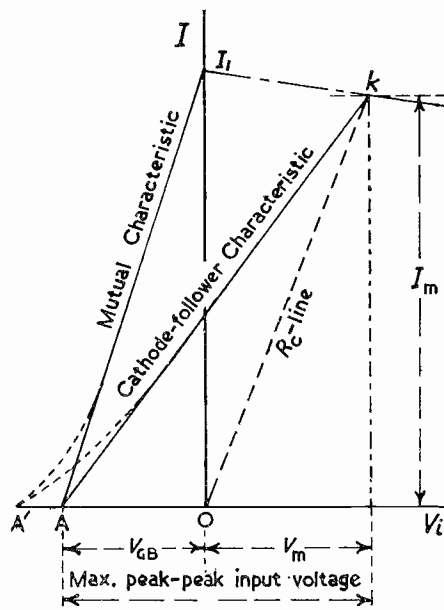

Fig. 26 Illustrating the case where  $R_c$  is 'much less than  $R_a$ '
The results of Section 7 on maximum outputs are capable of some simplification when  $R_c$  is much less than  $R_a$ . This includes the important case of a cathode-follower feeding a low impedance transmission line. For Equations (7.2) and (7.1) become, respectively,  $I \cong V_{ht}/R_a$ , which equals  $I_1$  (from Section 8), and  $V_m \cong (R_c/R_a)V_{ht}$  which equals  $I_1 R_c$ . In words, the maximum output current is practically independent of  $R_c$  and equal to  $I_1$ , for all values of  $R_c \ll R_a$ , while the maximum output voltage increases directly with  $R_c$ . Geometrically (refer to Fig. 26), the  $R_c$ -lines for values of  $R_c \ll R_a$  make only small angles with the current axis and so the maximum output currents differ little from  $I_1$  while the maximum
From the equation  $V_m \cong I_1 R_c$  of the previous paragraph it is possible, however, to write down a very convenient expression for  $V_m$  in terms of the "idealised" grid-base,  $V_{GB}$  (see Fig. 26), of the valve. For, from this figure,  $I_1 = g_m V_{GB} = V_{GB}/R_m$  and so
The input necessary to swing the valve from its "idealised" cut-off point to its full output is greater than  $V_m$  by the grid-base itself (see Fig. 26), i.e., the maximum peak-to-peak input voltage is  $V_m + V_{GB}$  which is equal approximately to:
A.3.4. It will be seen from Fig. 26 that the peak-to-peak input necessary to swing the valve from true cut-off to full current exceeds  $(N + 1)V_{GB}$  by an amount  $AA'$ . But if the valve is worked only on the linear part of its characteristic,  $(N + 1)V_{GB}$  remains a very good approximation to the input swing required, while the peak-to-peak outputs will in this case be less than  $V_m$ ,  $I_m$  by the minimum d.c. cathode voltage and current, respectively, that the condition of linear working will permit.